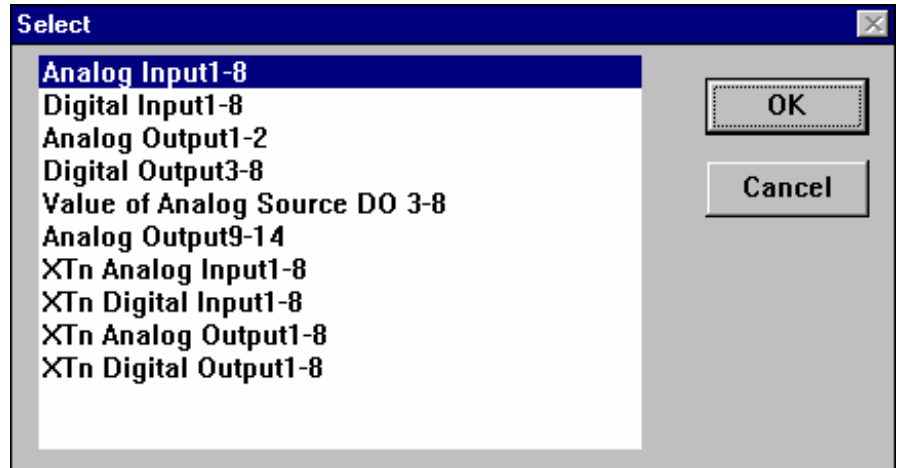

Figure 13-4: Select Subcategory Dialog Box Example
4. Highlight a category and click OK. A Select subcategory dialog box appears (Figure 13-4).